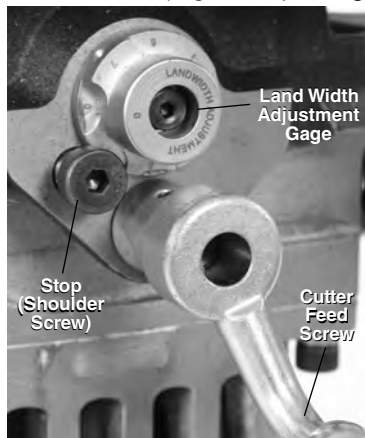

Figure 18 – Land Width Adjustment Gage Setting
6. Set the desired bevel land width (Figure 18) using the land width adjustment gage. If set to “0” there will be no land on the end of the pipe. Each step on the land width adjustment gage is approximately a 1/32" (0.8 mm) different from the adjacent step. (1 ~ 0.03" (0.8 mm) land width, 2 ~ 0.06" (1.6 mm), etc.) Move the needed step of the gage so it aligns under the head of the stop.
- Using a smooth continuous clockwise rotation of the cutter feed screw (Figure 18); engage the cutter head into the work piece until the stop contacts the land width adjustment gage. Do not use cutting oil or coolant.